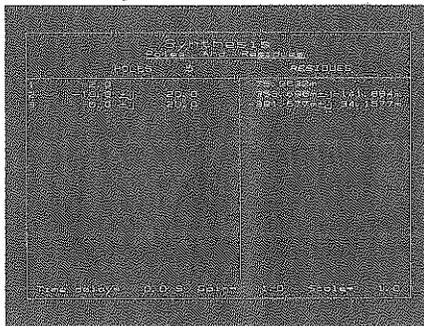

Figure 10-4
2. **Display Table** To display the new table select the **POLE RESIDU** softkey. The table will appear as shown in Figure 10-4.